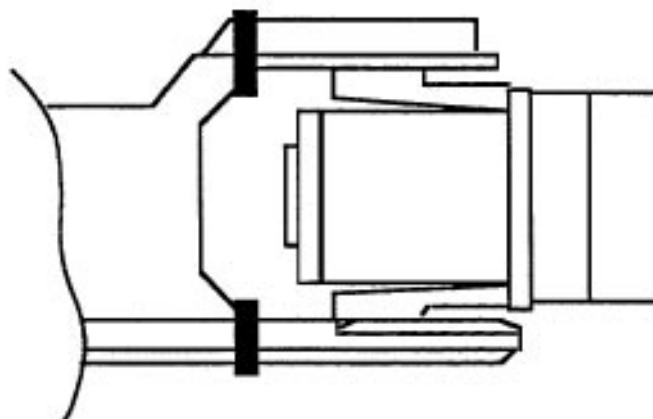

Figure 6 To prevent the wrist from rotating.
2. Attach a hoist to the wrist, so that it cannot rotate. See Figure 6.